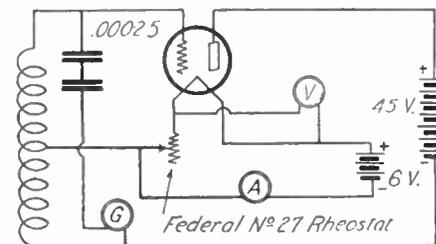

Fig. 74B. A simple tube testing circuit. Meter "G" only registers oscillating currents.
(74) Mr. Jerome Fennimore, Basking Ridge, N. J., asks:
A. 1. This is standard. It will be found in Fig. 74B.